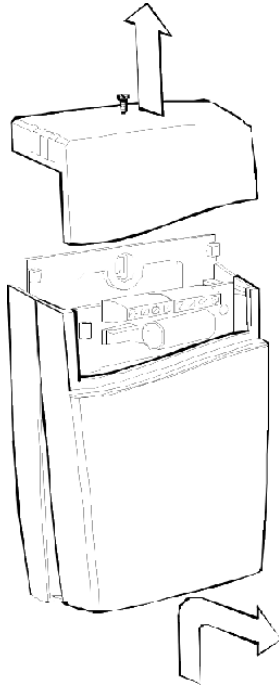

Fig. 4. Removing the wiring terminal cover and the sensor/controller
1. Loosen the screw on top of the wiring terminal cover and remove the wiring terminal cover from the wall plate (see Fig. 4).